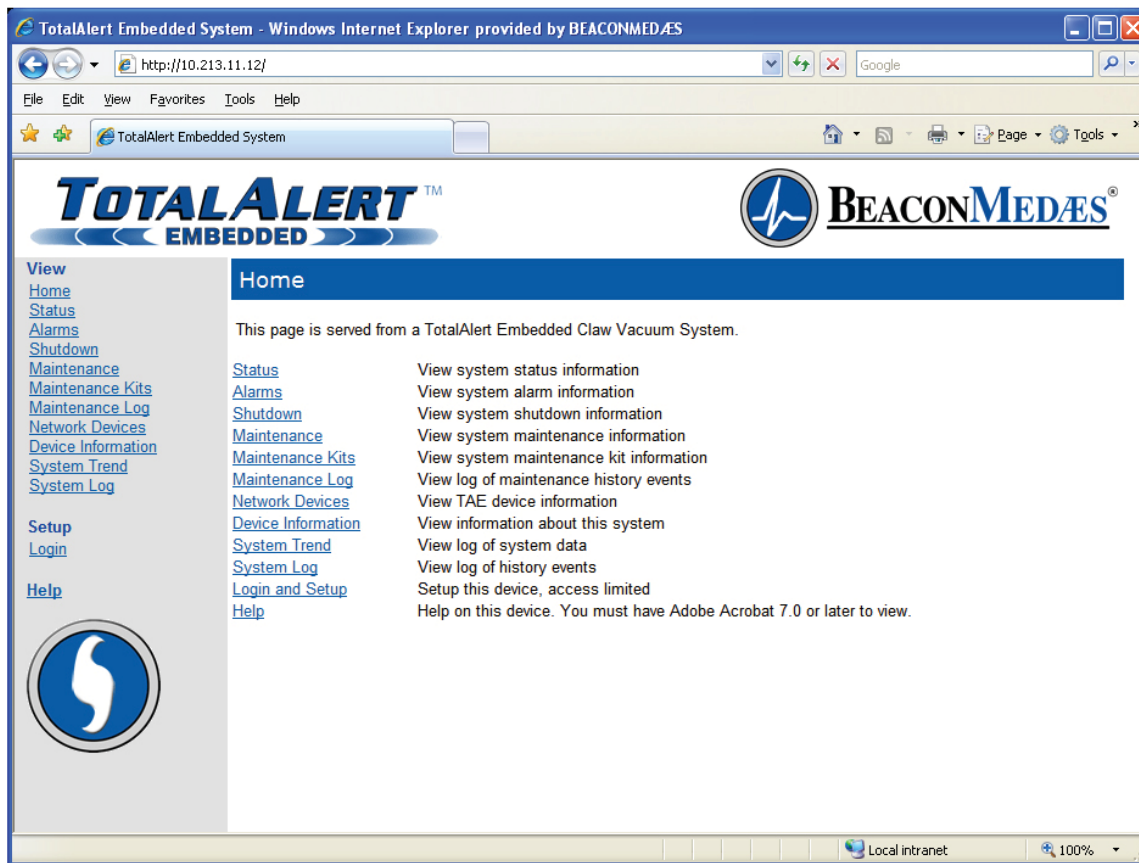

Figure A.28 Typical Medical Vacuum System home page
1. Once connected to the TotalAlert Embedded control system, your browser will display the typical home page (Figure A.28).